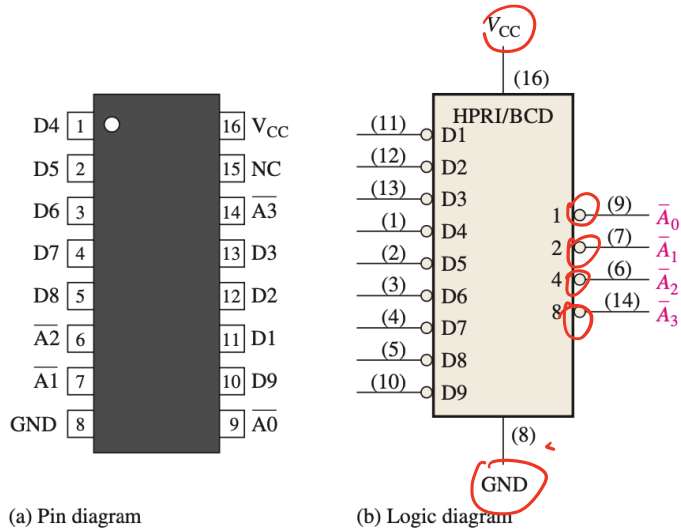

FIGURE 6-38 The 74HC147 decimal-to-BCD encoder (HPRI means highest value input has priority).
Fixed-Function Device The 74HC147 is a priority encoder with active-LOW inputs (0) for decimal digits 1 through 9 and active-LOW BCD outputs as indicated in the logic symbol in Figure 6-38. A BCD zero output is represented when none of the inputs is active. The device pin numbers are in parentheses.